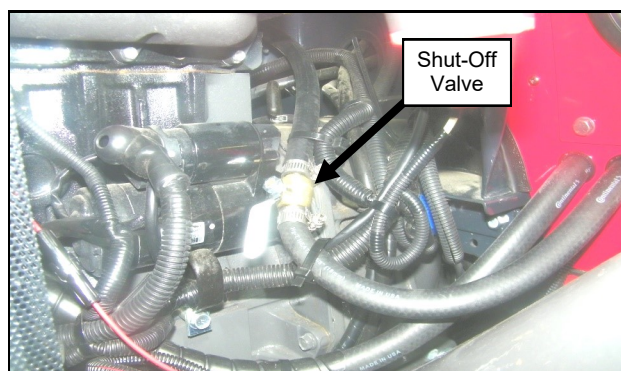

Figure 17.17 (Install Shut-Off Valve)
17.17 At installer's preference, select a location to splice the supplied shut-off valve into the supply line coming from the nipple in the top of the water pump or bottom of the thermostat. See Figure 17.17.